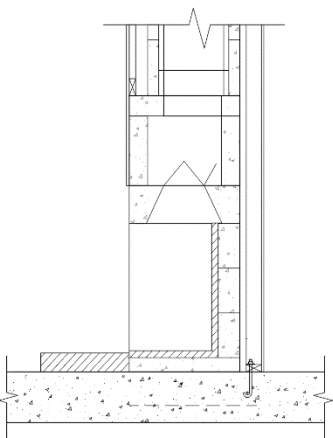

FIGURE 6
2. Slab-on-grade foundations thickened and reinforced: for additional load carrying. **(Figure 6)**